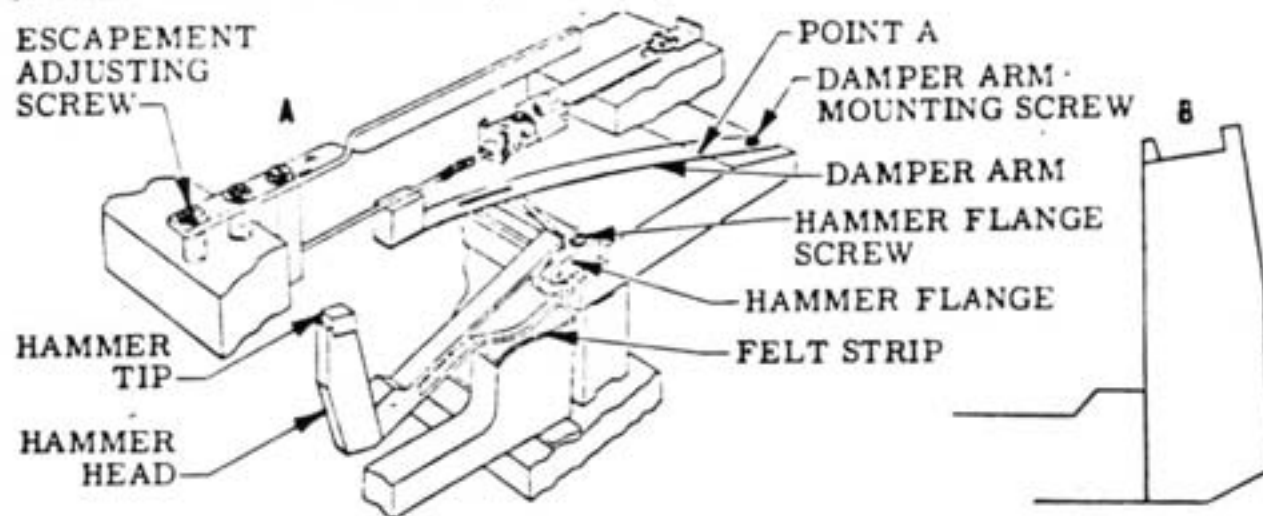
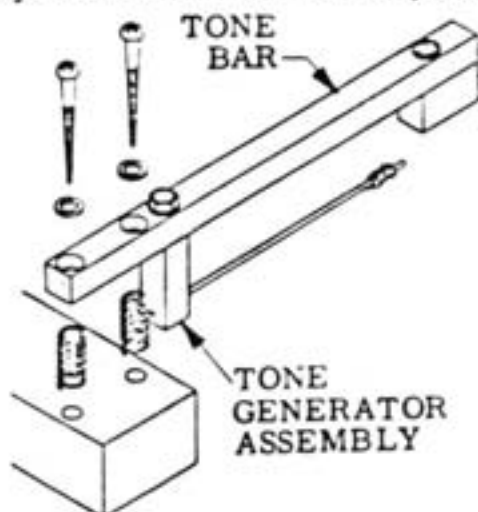

Figure 4
Figure 6
While this type of Head was retained for awhile, another innovation followed soon (Figure 4). It consisted of a wooden Head with a Felt Tip, which was easily removed for replacement. This was a major step forward in that replacement could be done inexpensively by the musician.
2. In the next stage the Assembly was constructed as shown in Figure 6. Several improvements were accomplished by this change.
- a. The Tone Generator Assembly (Figure 6) was now removeable for easy replacement.
2. Suppose you have a Piano of the vintage depicted in Figure 4 but with the type Tone Bars shown in Figure 6, and you wish to restore it. Proceed as follows:
- a. Tension. The Damper Arm is actually a leaf spring. (See Figure 4). Tension can be increased by "ironing" a slight reverse curve in the part with your two fingers. Another way is to pull upward on the Arm at Point "A" (Figure 20). The added tension thus imparted will result in improved Damper response.
1. To decrease the escapement distance, compress both Escapement Adjusting Springs (Figure 4). This will lower the entire Tone Bar Assembly thus reducing the gap. Once this is accomplished re-establishment of timbre and volume setting is done in the usual way.